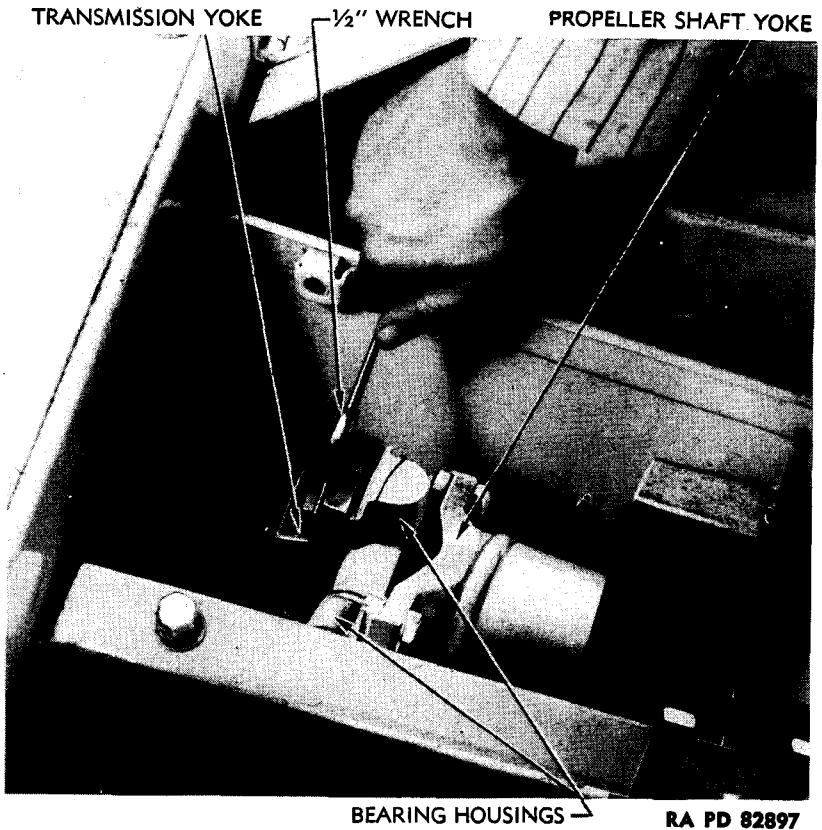

Figure 94 – Disconnecting Universal Joints
(2) **REMOVE PROPELLER SHAFTS AND UNIVERSAL JOINTS.** Tie a piece of wire around universal joint bearing housings that are connected to the transmission and transfer unit, to prevent housings from slipping off cross and possibly losing some of the needle bearings when disconnected. Straighten lock plate under each of the four universal joint bearing housings. Disconnect universal joints at transmission and transfer unit ends by removing eight bearing housing mounting screws (fig. 94). Push front universal joint yoke toward rear of vehicle to telescope sliding joint. Remove propeller shaft and universal joints.